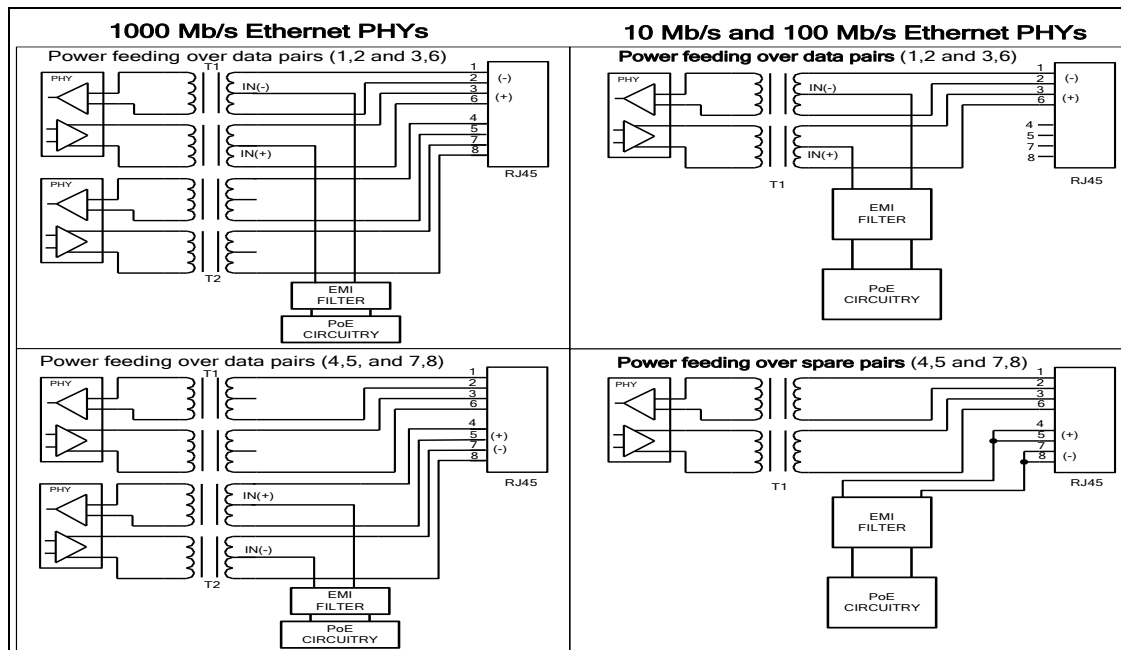

Figure 17: Output Ports Design Details
As specified in the IEEE PoE standards, PoE output power can be supplied over the data pairs or the spare pairs. Both methods are detailed in Figure 17 which illustrates an MDI-X (or Auto MDI-X) connection associated with the switch.
- ♦ The PoE ports outputs must be connected to the switch's pulse transformers as shown in Figure 17. The common mode choke and 'Bob-Smith' termination (resistor-capacitor) to chassis ground are optional and used to reduce RFI noise. The circuit is to be located as close as possible to the pulse transformer.